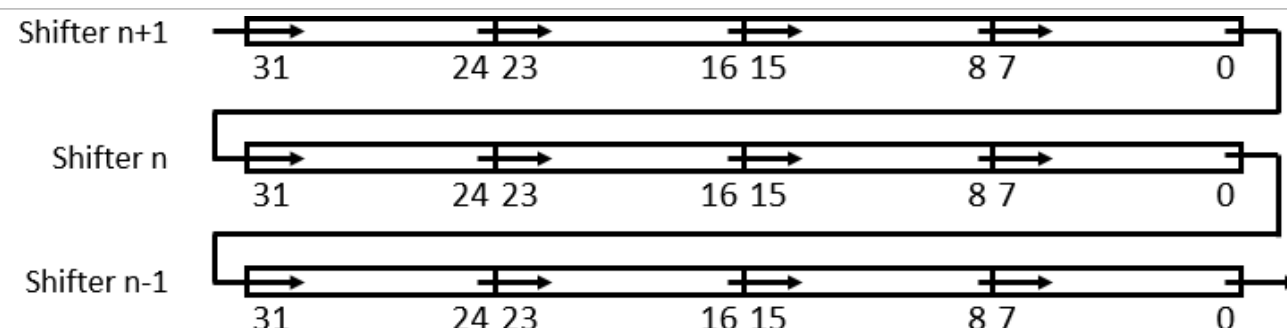

Figure 9. Shifter concatenation diagram
- It combines multiple shifters together for a concatenation to support large transfer sizes and use the DMA method to access the shifter buffer registers for high-speed transfers and low-power operations. Figure 9 shows the shifter concatenation diagram, where the additional shifters work as FIFOs.